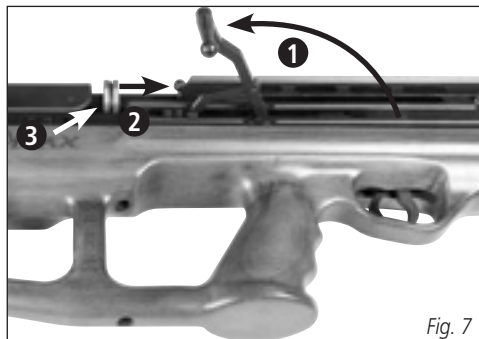

Fig. 7
3. To fit the magazine into the air rifle; pull the cocking handle backwards until it stops. (Fig. 7)
4. Push forward the magazine release bolt and slide it upward to lock. Insert the magazine into its slot from the right. (Fig. 7)